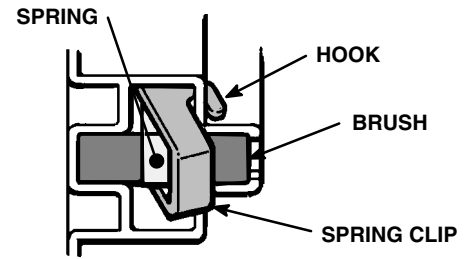

Fig 23
2. Push in and then pull out the spring clip. See Fig 23.